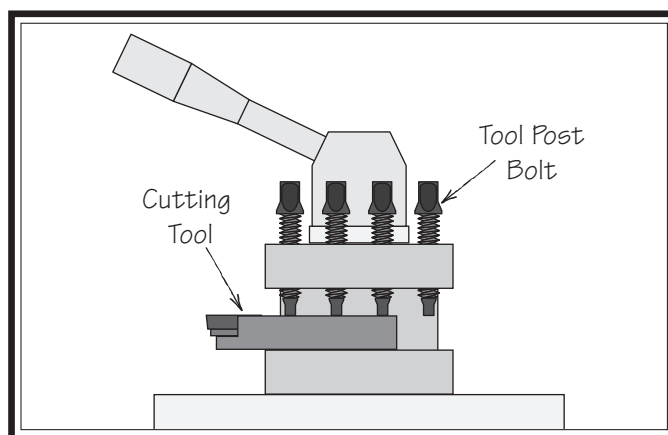

Figure 60. Example of tool mounted in tool post.
1. Adjust the tool post bolts so that the cutting tool can fit underneath them (see **Figure 60**).